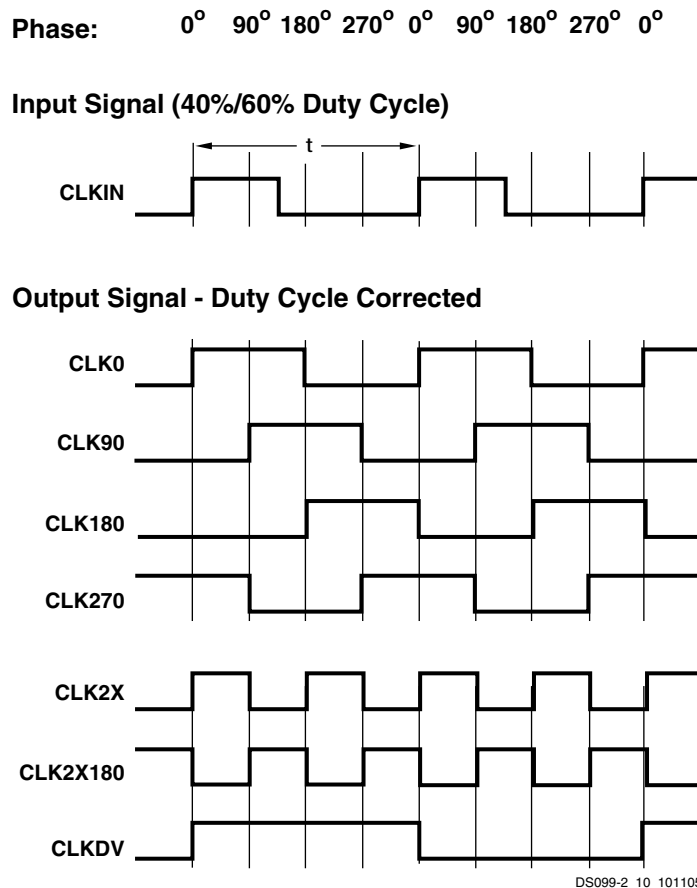

Figure 43: Characteristics of the DLL Clock Outputs
In addition to CLK0 for zero-phase alignment to the CLKIN signal, the DLL also provides the CLK90, CLK180, and CLK270 outputs for 90°, 180°, and 270° phase-shifted signals, respectively. These signals are described in Table 28, page 48 and their relative timing is shown in Figure 43. For control in finer increments than 90°, see Phase Shifter (PS).